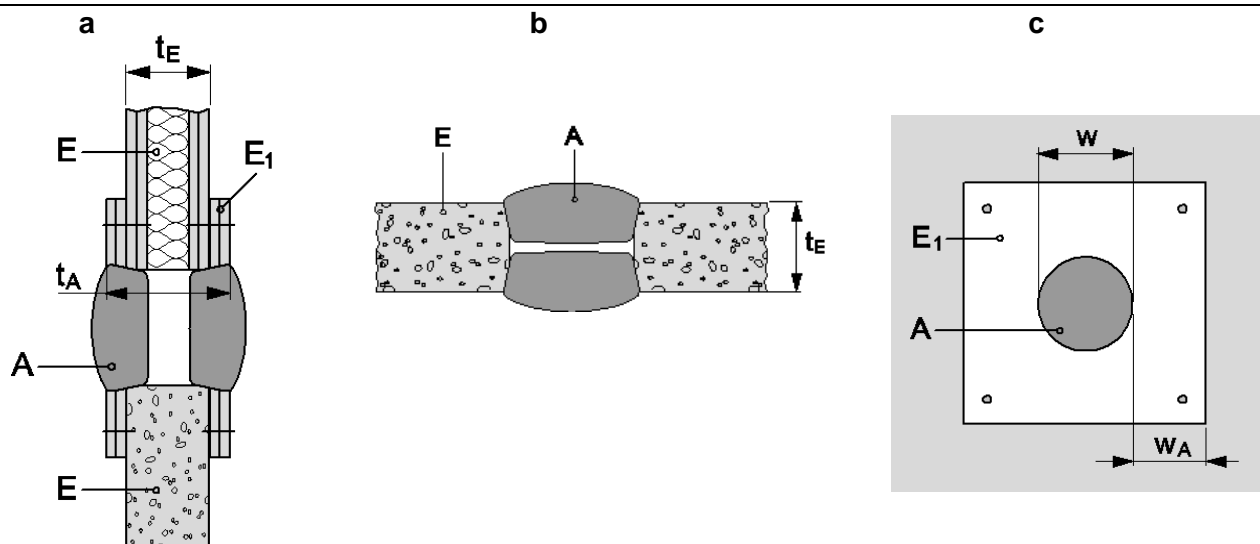

Figure 1: beading and position of the seal in walls / floors
<ul style="list-style-type: none"> <li>Construction details (for symbols and abbreviations see figure 1 and Annex 4.1):</li> <li>Hilti firestop plugs CFS-PL (A) of seal thickness <math>t_A \geq 150</math> mm, centered regarding the thickness of the wall (E); beading (E1) according to 2.1.2.</li> <li>Hilti firestop plug can be installed in the round opening directly or alternatively in a fitted plastic sleeve (PVC, 2 mm wall thickness, 150 mm length, flush to wall). Last one can be also used according below mentioned cable sealing classifications.</li> </ul>	 <p>Figure 4: blank seal</p>